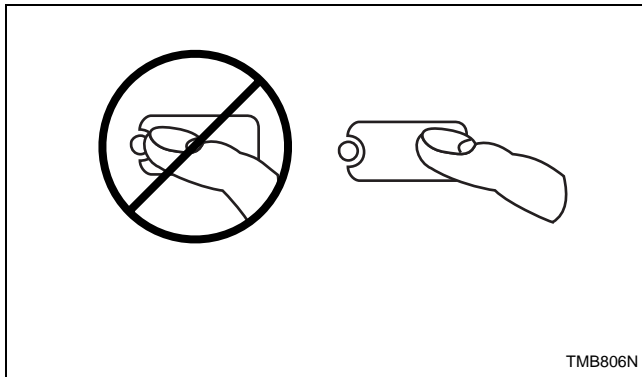

Figure 5
**NOTE:** Do not press directly on lights or the center of pad. For proper selection, press on pad slightly to the right of center. Refer to *Figure 5*.